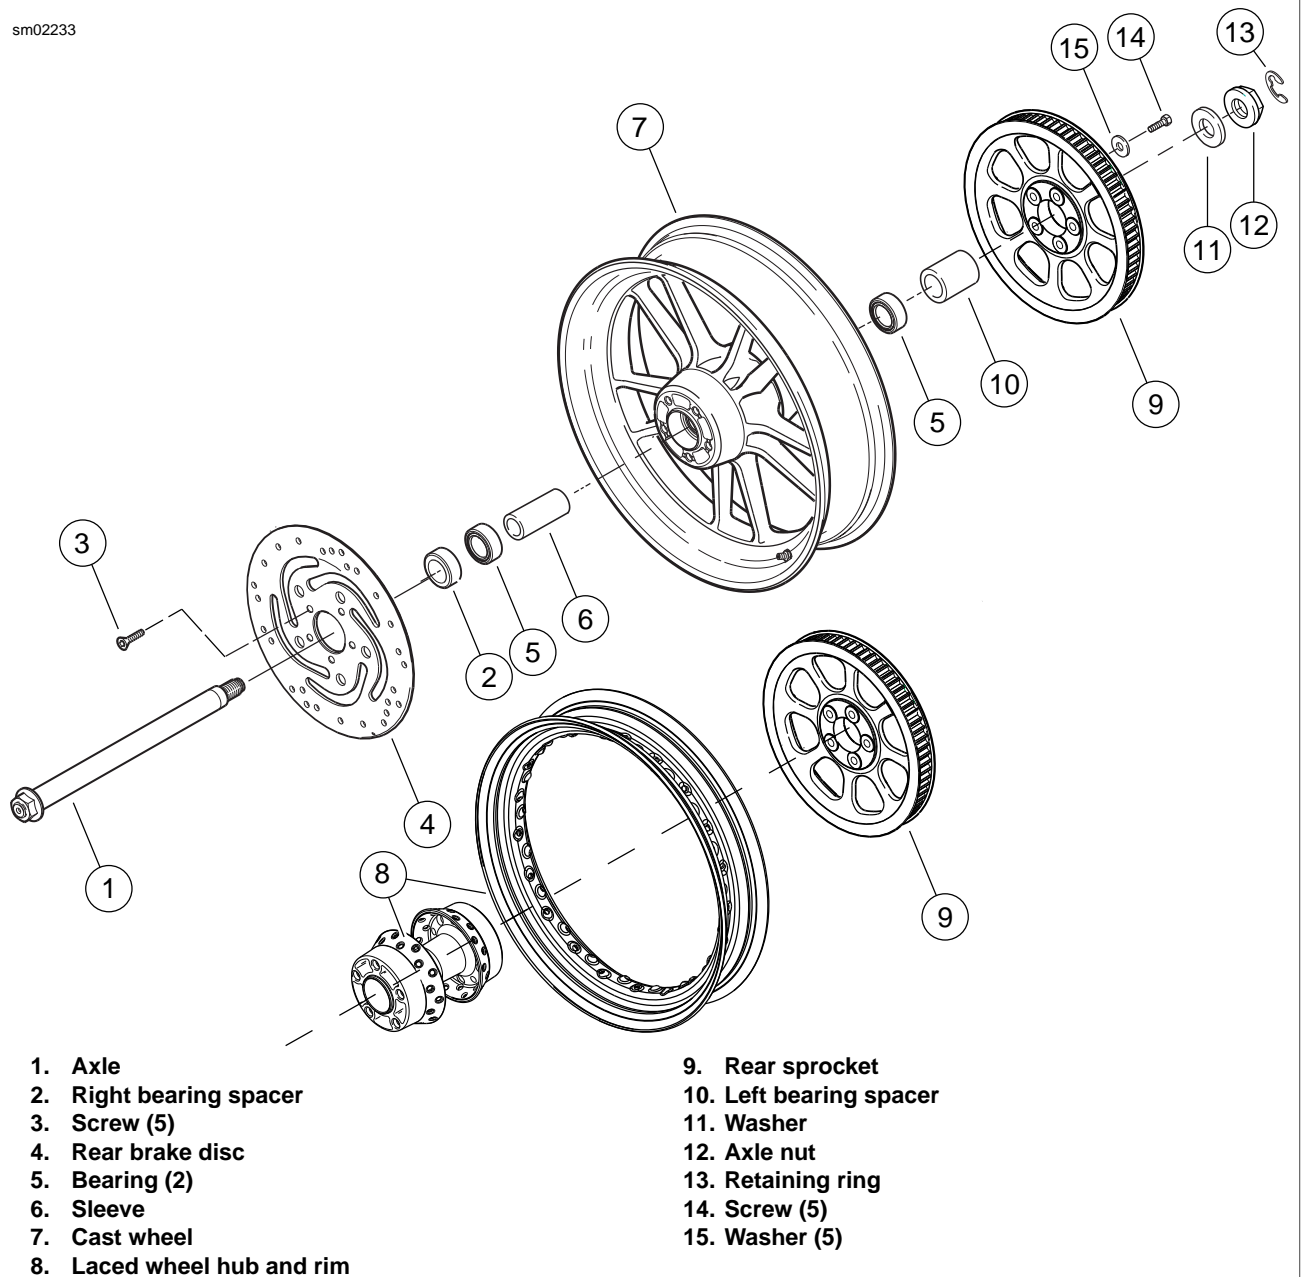

Figure 2-12. Rear Wheel/Hub
1. See Figure 2-12. Remove spacers (2, 10) from left and right sides.
- a. On left side of wheel, remove five screws (14) and washers (15) to detach rear sprocket (9). Discard screws.
- b. On right side of wheel, remove five screws (3) to remove rear brake disc (4). Discard screws.
2. See Figure 2-12. Using **new** screws (3), install brake disc (4) on valve stem side of wheel if removed.
4. Using **new** screws (14), install belt sprocket (9) if removed.